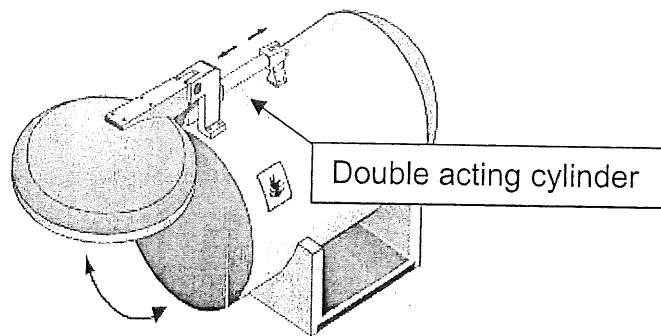

Figure 4
- a) A furnace door as in Figure 4 is to be opened and closed by a double-acting cylinder. The cylinder is activated by a hydraulic valve with spring return. This ensures that the door opens only as long as the valve is actuated. When the valve actuating lever is released, the door closes again. Sketch a hydraulic circuit for this application using 4/2 way valve. (6 marks)